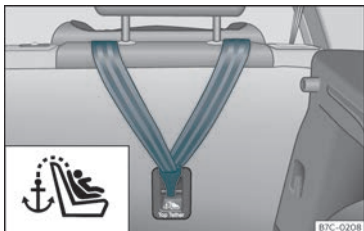

Fig. 27 Back of the rear seats: Top Tether securing rings.
- Slide the strap and secure it properly with the anchorage of the backrest >>> **Fig. 27**.